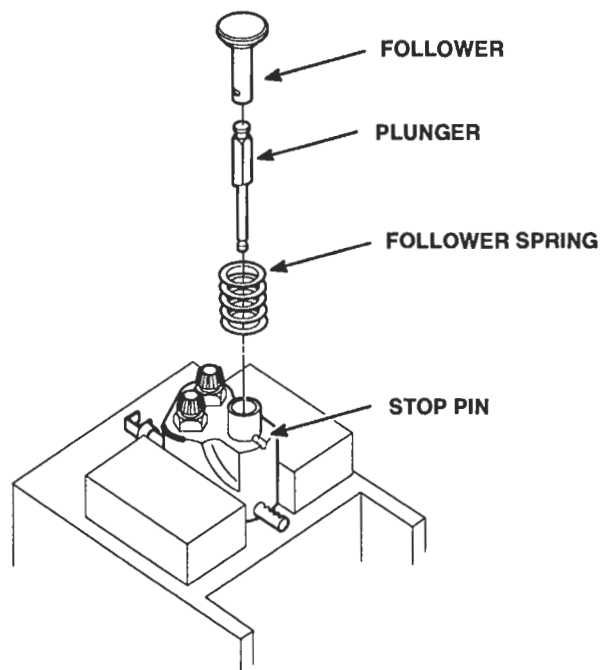

Figure 11. Removing or Installing Plunger Follower, Plunger and Spring
3. Remove the plunger follower, plunger and spring (Figure 11.) as an assembly.